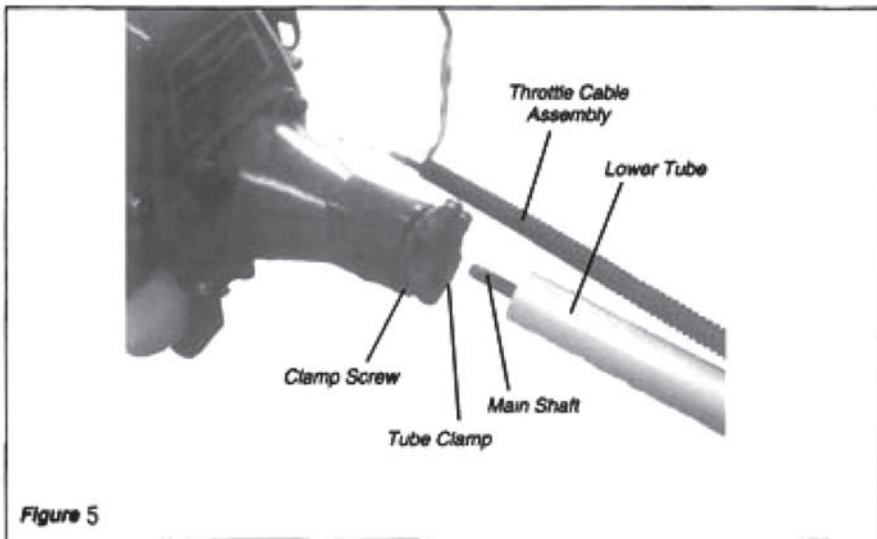

Figure 5
4. Push the lower tube towards the tube clamp and rotate it by hand to check that the mainshaft splines engage the powerhead. See Figure 5.